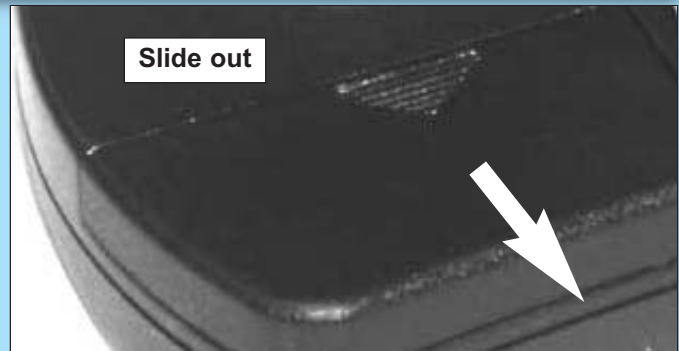

FIG. 8-1 Open battery cover.
- To open gently push straight out on battery cover lock tab as shown (Fig. 8-1).